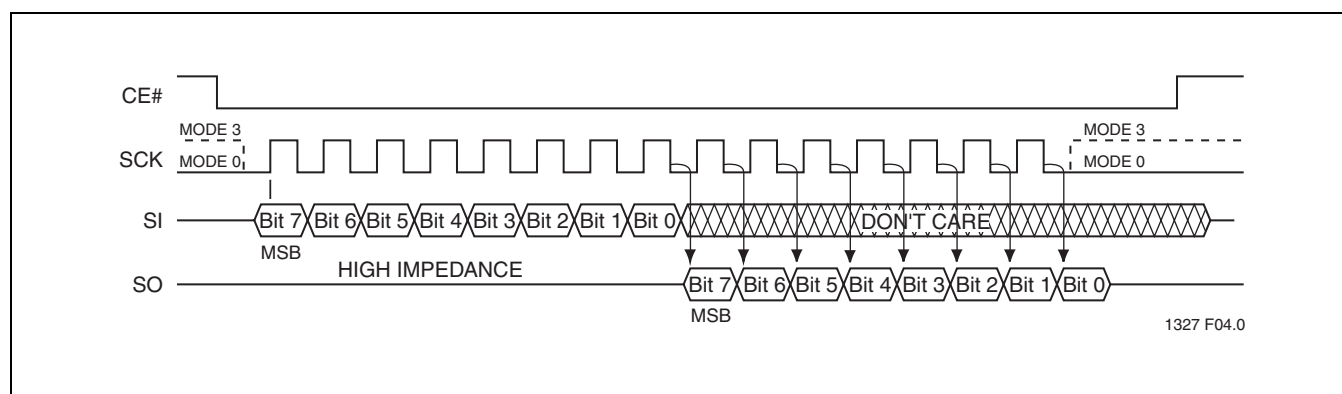

FIGURE 3: SPI Protocol
The SST25VF032B supports both Mode 0 (0,0) and Mode 3 (1,1) of SPI bus operations. The difference between the two modes, as shown in Figure 3, is the state of the SCK signal when the bus master is in Stand-by mode and no data is being transferred. The SCK signal is low for Mode 0 and SCK signal is high for Mode 3. For both modes, the Serial Data In (SI) is sampled at the rising edge of the SCK clock signal and the Serial Data Output (SO) is driven after the falling edge of the SCK clock signal.